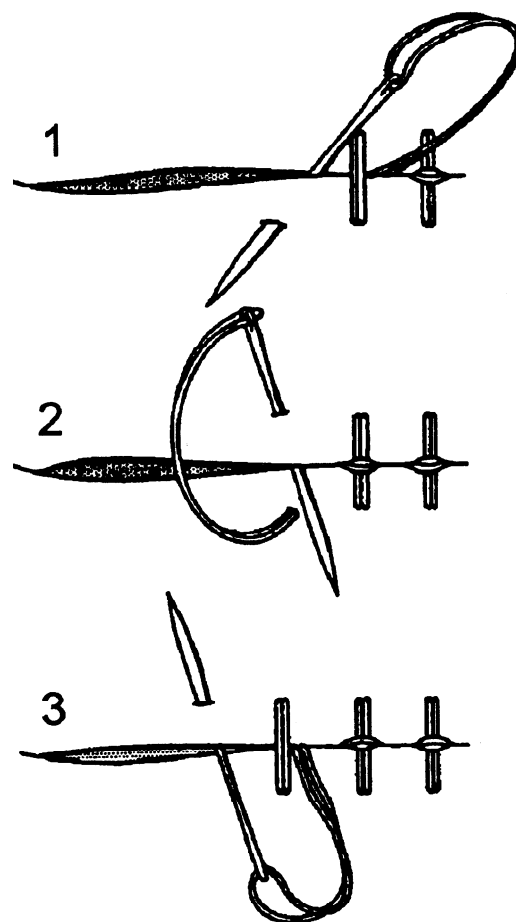

Figure 5-14.—Herringbone stitch.
- Herringbone stitch. The herringbone stitch is used to mend tears in heavy or painted canvas. Figure 5-14 shows the steps in making this stitch. As you can see from the picture, the herringbone stitch is very strong if applied correctly, as each stitch locks itself as it begins the next.